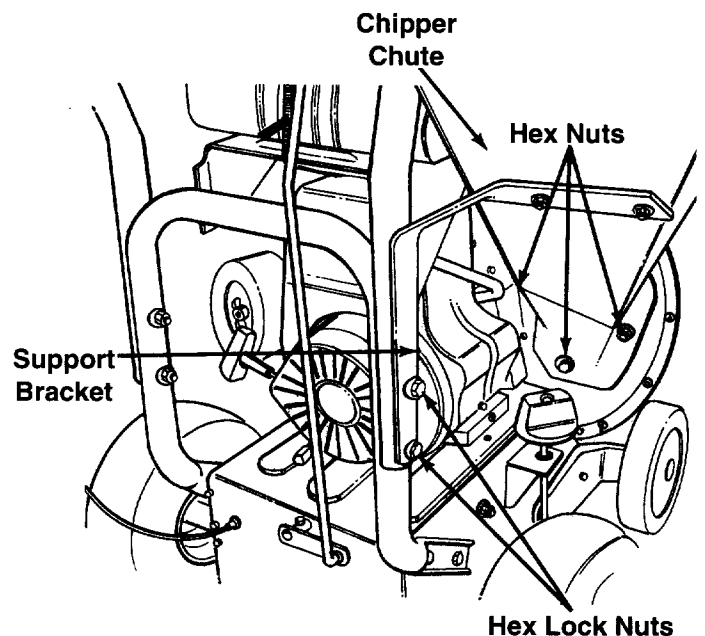

FIGURE 4.—View from the operator's position
- Remove the two hex lock nuts from the hex bolts which secure the right side of the upper handle to the lower handle. Leave the bolts in place. See figure 4.
- Remove the three cupped washers and hex nuts from the weld studs. You will find these weld studs beside the opening on the right side of the chipper vacuum. See figure 4.
- Place the chipper chute over the weld studs. Secure with cupped washers and hex nuts that you earlier removed. See figure 4.
- Remove the two hex bolts, flat washers, and nuts which are attached to the support bracket. See figure 4.